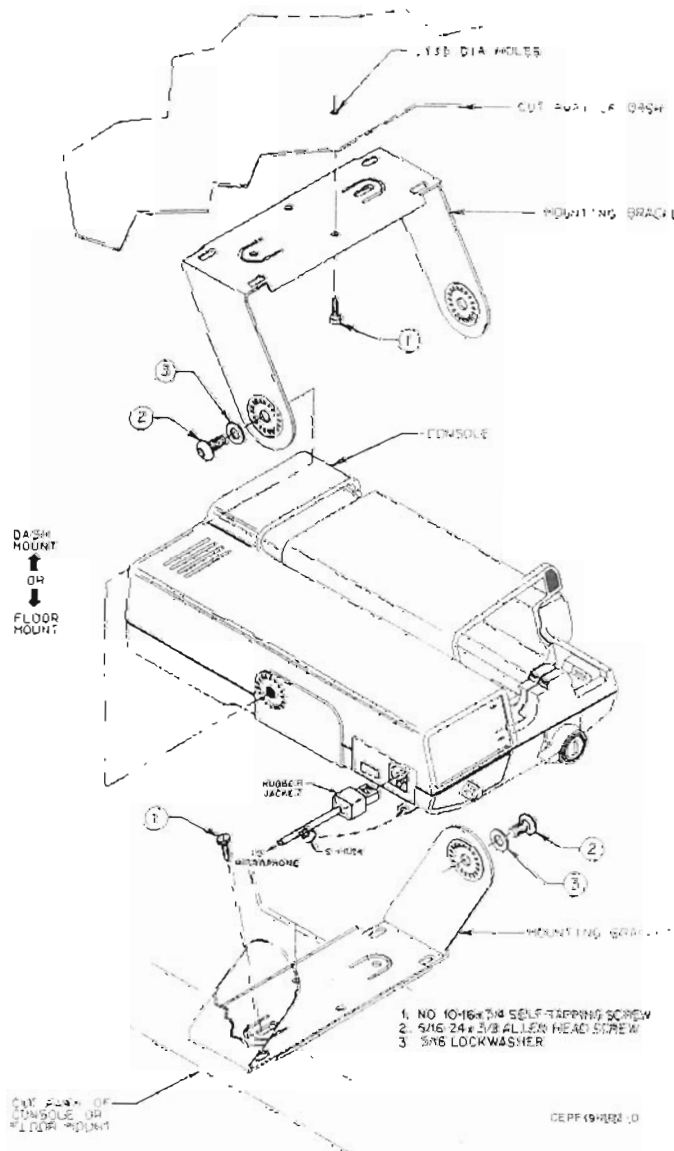

Figure 1. Console Installation Detail
Referring to Figure 1, install the console using the following procedure, or modify the procedure as necessary to conform to the vehicle type:
- Using the trunnion bracket as a template, drill the mounting holes, and mount the bracket with the hardware supplied. If the trunnion bracket is to be mounted on the floor or vehicle console, bend the tabs on the bracket to conform to the shape of the floor or vehicle console (see Figure 1).
Referring to Figure 1, crimp the S-hook (supplied with the mounting hardware) to the microphone cable approximately 1.5 inches to 2 inches from the connector end. When hooked to the baseplate, this prevents inadvertent damage to the cable connections when using the microphone. Care should be taken to prevent cutting into the cable jacket when installing the S-hook.